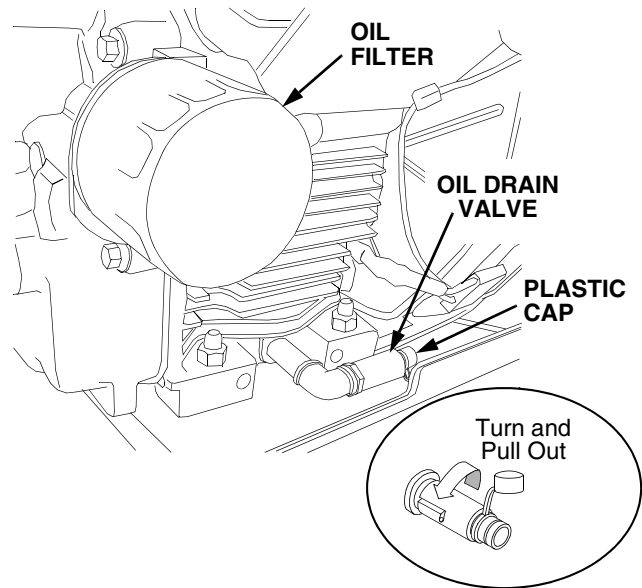

Figure 21
The oil filter is located on the left side of the engine (See Figure 21).
3. Unseat the plastic dust cap from the engine oil drain valve. To prevent loss of the cap, do not remove the cap's retaining ring from the drain valve (Refer to Figure 21). Remove the dipstick and oil fill cap.